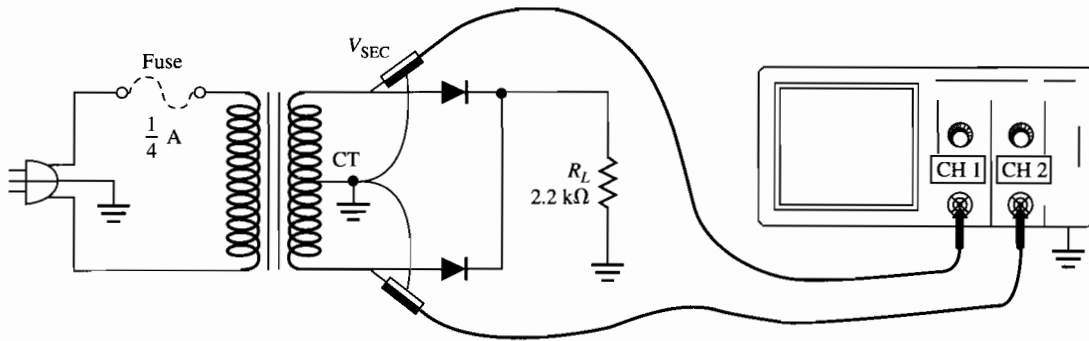

Figure 32-5
4. In step 3, you moved the ground reference to the center-tap of the transformer. If you wanted to look at the voltage across the entire secondary, you would need to connect the oscilloscope as shown in Figure 32-5 and *subtract* channel 2 from channel 1. (Some oscilloscopes do not have this capability.) Why is it necessary to use *two* channels to view the entire secondary voltage?